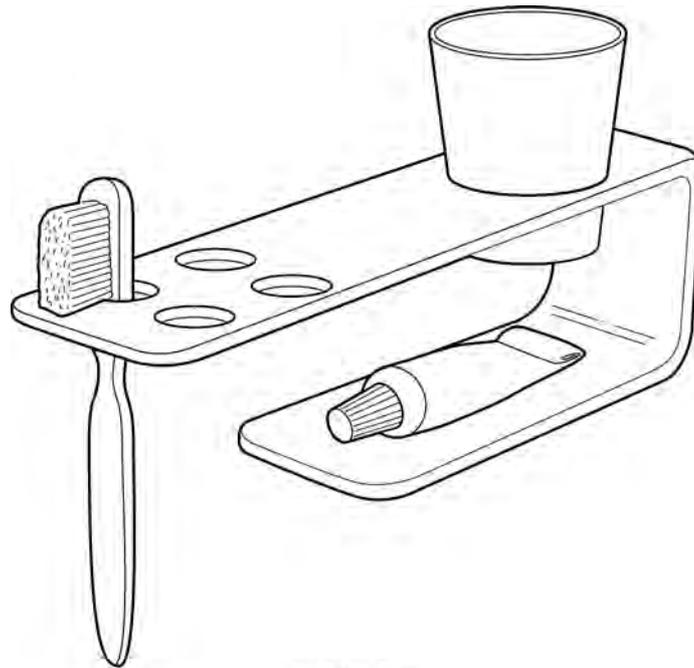

Fig. 2
- 2 Fig. 2 shows a bathroom fitting which is to be made from sheet material in a school workshop.